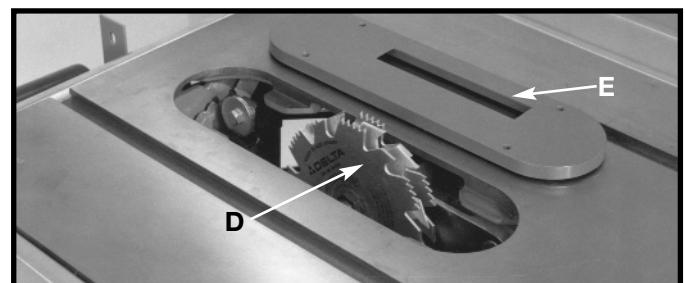

Fig. 56
2. Attach the dado head set (D) Fig. 56, to the saw arbor. **NOTE: THE OUTSIDE ARBOR FLANGE CAN NOT BE USED WITH THE DADO HEAD SET, TIGHTEN THE ARBOR NUT AGAINST THE DADO HEAD SET BODY. DO NOT LOSE THE OUTSIDE ARBOR FLANGE. IT WILL BE NEEDED WHEN REATTACHING A BLADE TO THE ARBOR.**
**WARNING** THE ACCESSORY DADO HEAD SET TABLE INSERT (E) FIG. 56, MUST BE USED IN PLACE OF THE STANDARD TABLE INSERT.